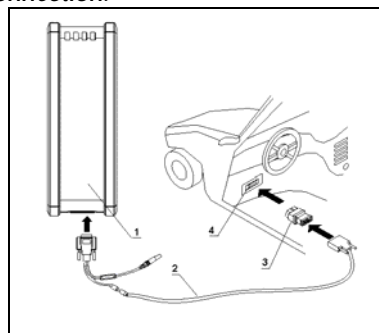

Fig 3-1
- For more details, please refer to Fig. 3-1.